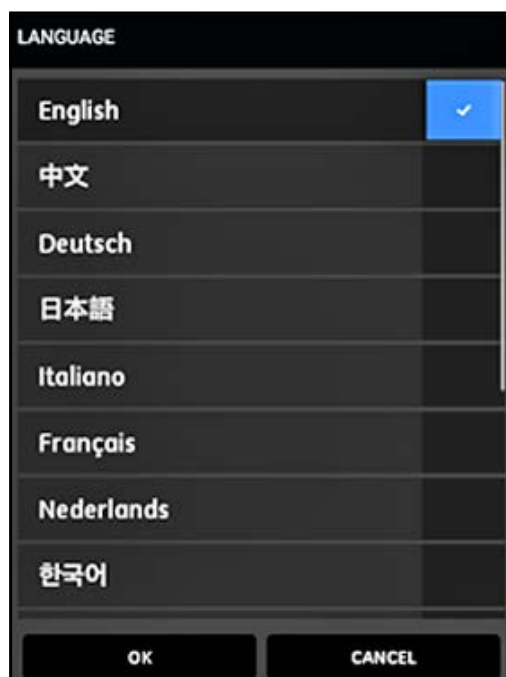

Figure 59: PT900 APP Language Options
- At the screen shown in *Figure 59* below, select the desired language for the APP and click OK.